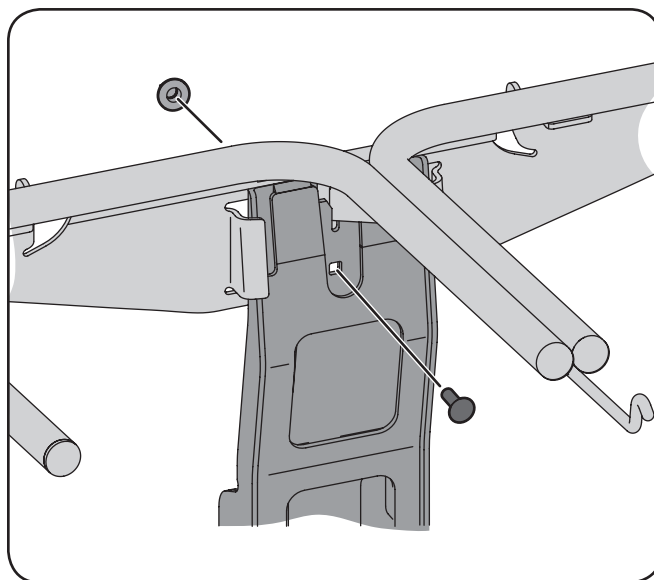

Figure 4-9
5. Secure the hanger assembly to the vertical support bracket using the carriage bolt (710-0276) and flange lock nut (712-04063) packed in with the 689-00080A mounting kit. See Figure 4-9.